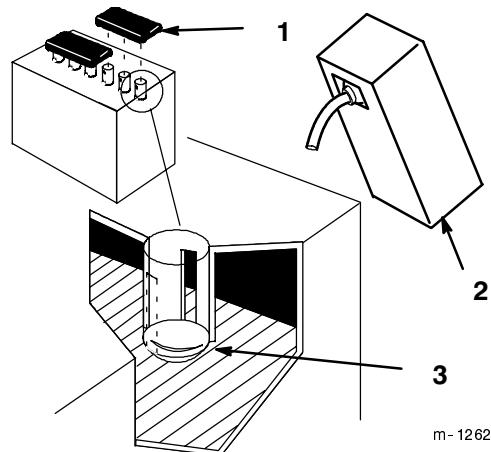

Figure 3
2. Remove filler caps from the battery. Slowly pour electrolyte into each cell until the electrolyte level is up to the lower part of the tube (Fig. 3).
5. Slowly pour electrolyte into each cell until the level is once again up to the "UPPER" line on the battery case (Fig. 3) and install covers.